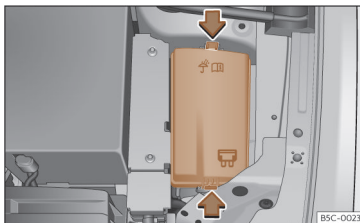

Fig. 206 In the engine compartment: lid of the fuse box.
- Press the locking tabs to unlock the fuse box cover >>> **Fig. 206**.